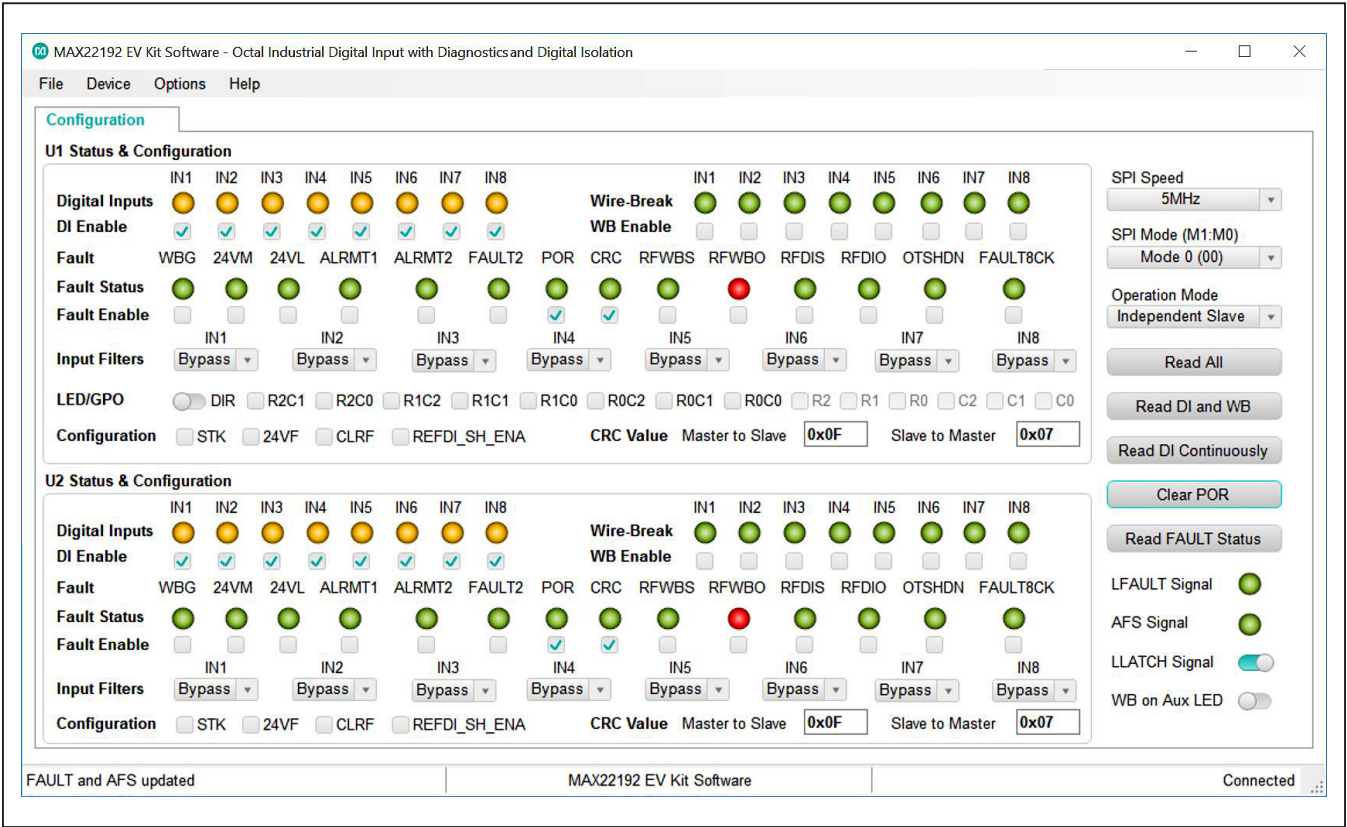

Figure 3. MAX22192 EV Kit Software—Clear POR
- 13) Click **Clear POR** button. Observe that **POR** status lights for U1 and U2 are changed to green, and the **FAULT Signal** status light is also changed to green in the **Configuration** tab as shown in Figure 3.
After power up, the MAX22192 $\overline{\text{LFAULT}}$ pin is low and the POR bit in the FAULT1 register is set, indicating that a power-on-reset has happened and all registers are set to default (Figure 2). After clicking the **Clear POR** button, the GUI clears the POR bit in the FAULT1 register. The $\overline{\text{LFAULT}}$ pin is pulled high and FAULTB1 and FAULTB2 LEDs are turned off after clearing the POR (Figure 3).